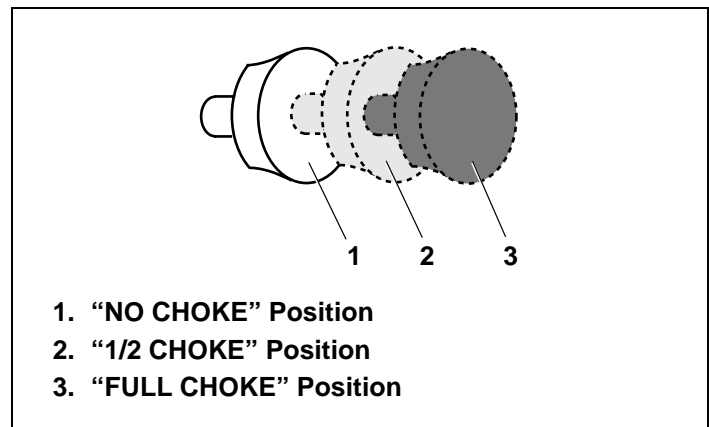

Figure 11. Choke Control Positions
- c. Next, move independent choke control to “NO CHOKE” position. See Figure 11.